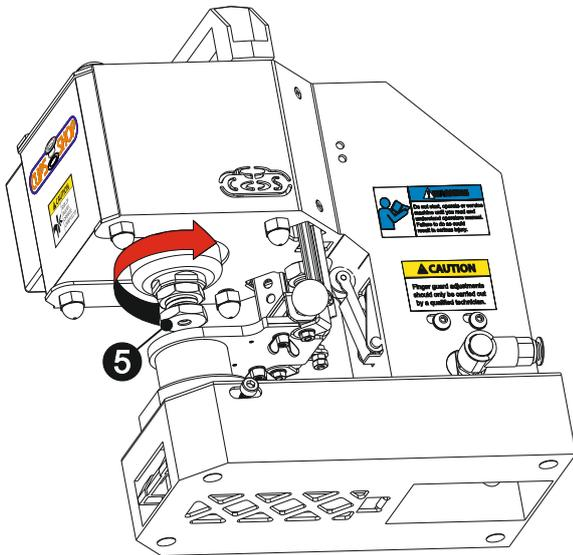

fig. 56
Install the upper die adaptor ❺ by rotating it in the arrow direction as shown in above (fig. 56).